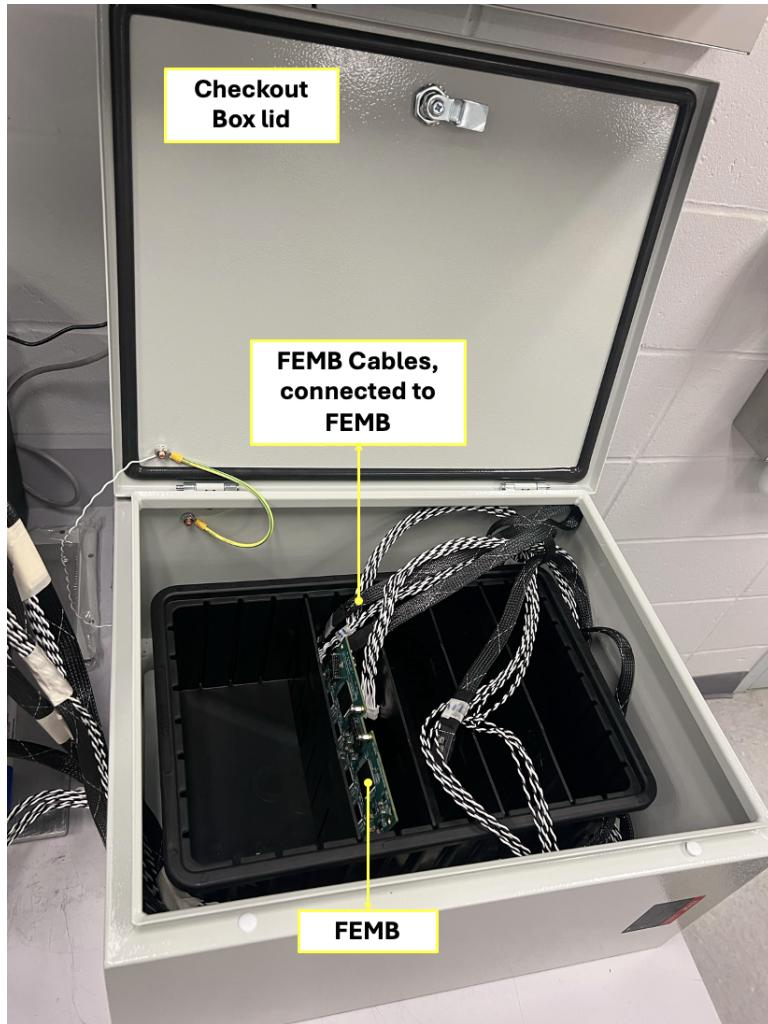

Figure 22: Placing an FEMB inside a slot in the checkout box.
1. Open the lid of the checkout test box (203).
2. Take one FEMB and connect both the data and power cables (208).
3. Carefully place the FEMB inside the checkout test box, using one of the available slots (Figure 22).